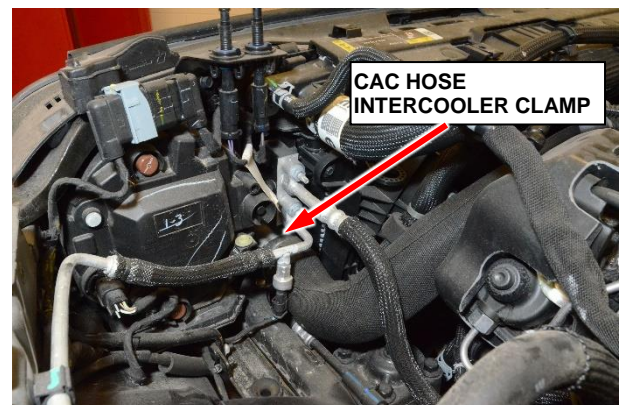

Figure 101 – CAC Hose from Intercooler
16. Loosen the left CAC hose clamp and disconnect the left CAC hose from the CAC and remove it (Figure 101).